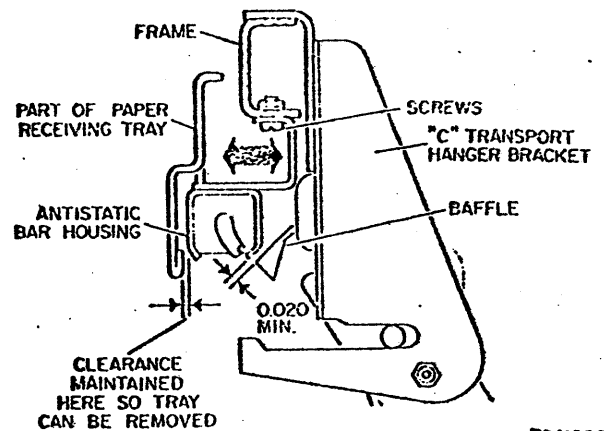

Fig. 3-202. Antistatic Bar
2. Adjust the antistatic bar in accordance with Fig. 3-202.